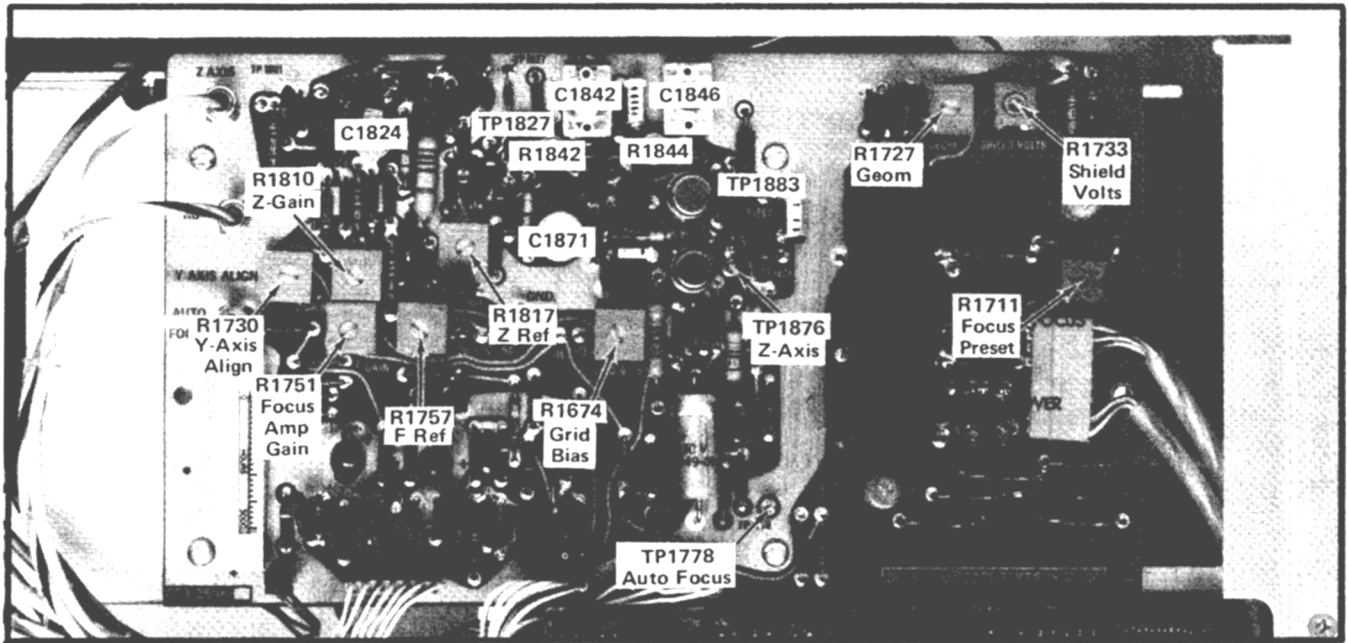

Fig. 2-3. Location of Z-axis adjustments and Z-axis Test Points.
Set the controls as given in the Preliminary Control Settings. See Fig. 2-3 for adjustment and Test Point locations.
b. Connect the DC voltmeter (VOM) between TP1778 and chassis ground (see Fig. 2-3).